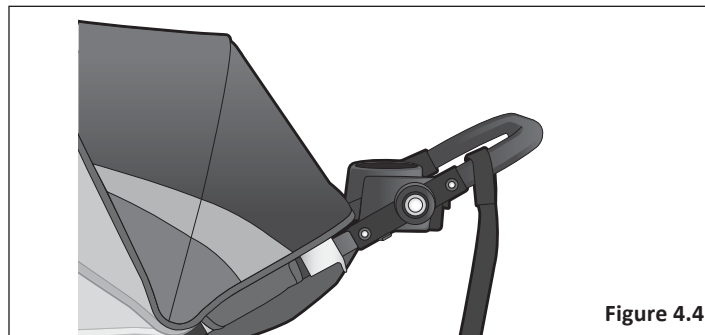
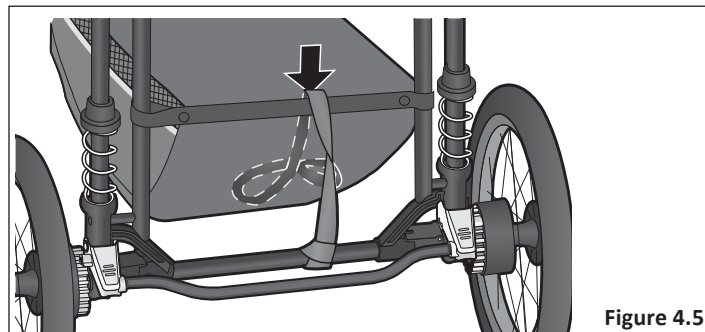

Figure 4.4
Figure 4.5
- 1 Two ways to store wrist strap when not in use: hang wrist strap on handlebar **Figure 4.4**, or place strap in basket. **Figure 4.5**